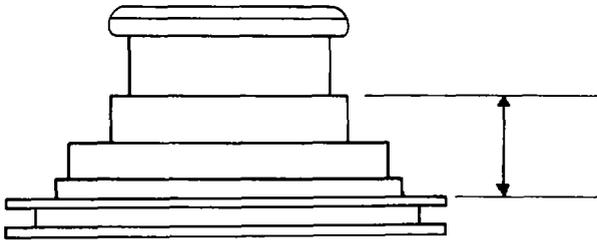

Figure 238 — Exhaust Valve Seat Measurement
- f. Measure the height of the exhaust valve seat using a micrometer depth gauge as shown in Fig. 238. If the height is less